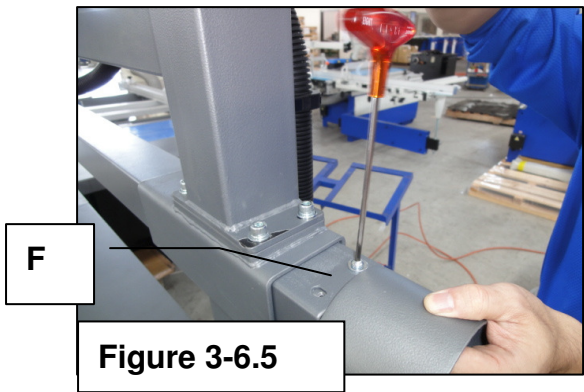

Figure 3-6.5
4. Lock the round tube to the support arm as **F** (Fig. 3-6.5)